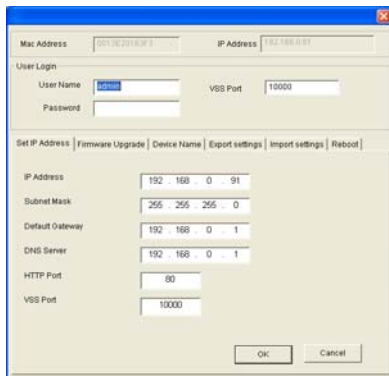

Figure 6-3
2. Double-click the camera in the list. Figure 6-3 appears.
1. In Figure 6-3, click the **Import Settings** tab. This dialog box appears.